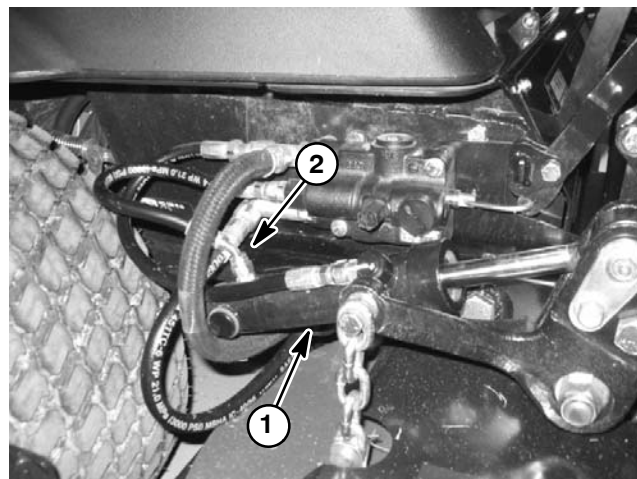

Figure 27
3. Thoroughly clean the area around the hydraulic hose end at the barrel end of the lift cylinder. Disconnect the hydraulic hose from the lift cylinder barrel end fitting (Fig. 27).